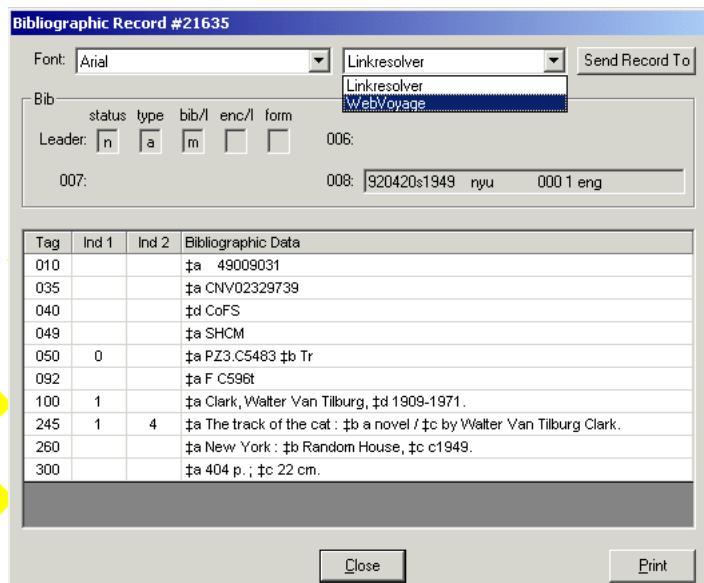

Figure 13-15. MARC view with drop-down of Web servers
1. From the standard MARC view, click the arrow in the drop-down menu listing the Web servers that are configured to accept your http POST and highlight the correct Web server (see Figure 13-15).